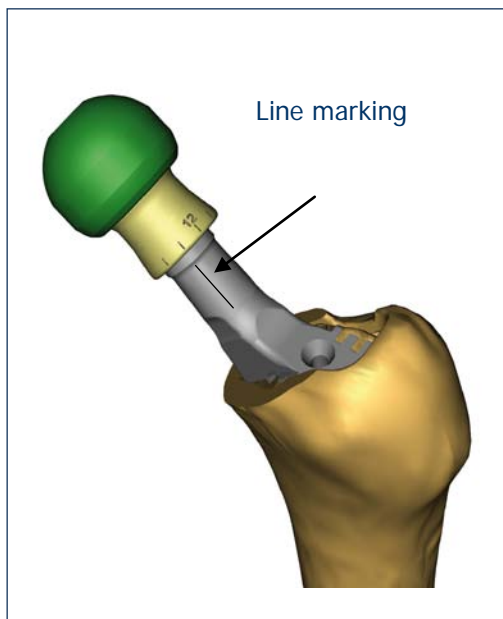

fig. 6: Alignment of the trial adapter
- To facilitate orientation, the offset implant and the offset trial components are marked with a scale. Using a sterile marker pen, e.g. Merete SteriPen™ (REF. EP13402) apply a marking line at an easily accessible place on the prosthesis neck. The marking serves for orientation during the directional positioning of the offset adapter (fig. 6)